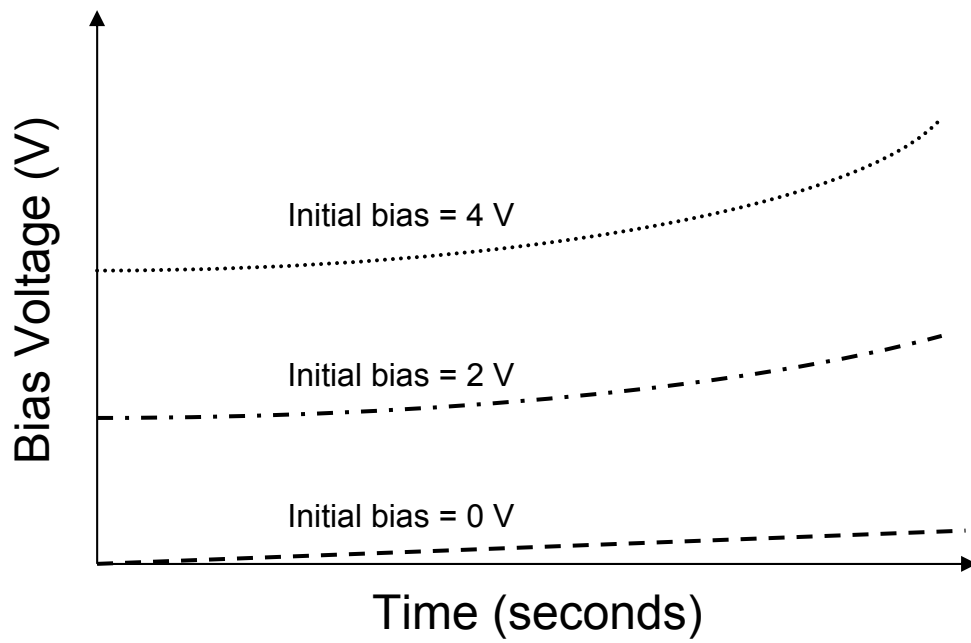

Figure 6. Example of how the bias drift rate of a Mach-Zehnder modulator is typically quantified.
Figure 6 shows how modulator bias drift is sometimes quantified. The drift mechanisms in most modulator materials make it likely that the rate of drift will increase with the magnitude (absolute value) of the initial bias voltage, as the example shown in Figure 6 illustrates. After the procedure outlined in the "Set-Up" section of the manual has been completed, this type of bias drift characterization can be carried out as follows:
4. Continue recording the voltage displayed on the **Voltmeter** at predetermined time intervals so that you can generate the type of bias voltage vs. time curve in the example shown in Figure 6.